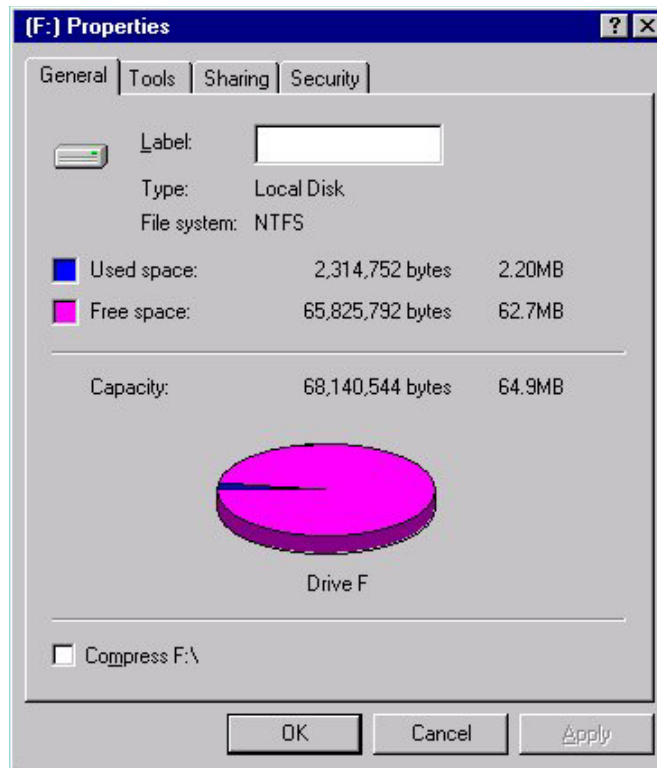

Figure 3.11 Properties Dialog Box
2. Select the device you want to verify. From the **File** menu, click **Properties** (or right-click on the device and click **Properties**). The Properties dialog box displays (see Figure 3.11).
- a) Verify the device properties for all new devices (refer to Figure 3.11).